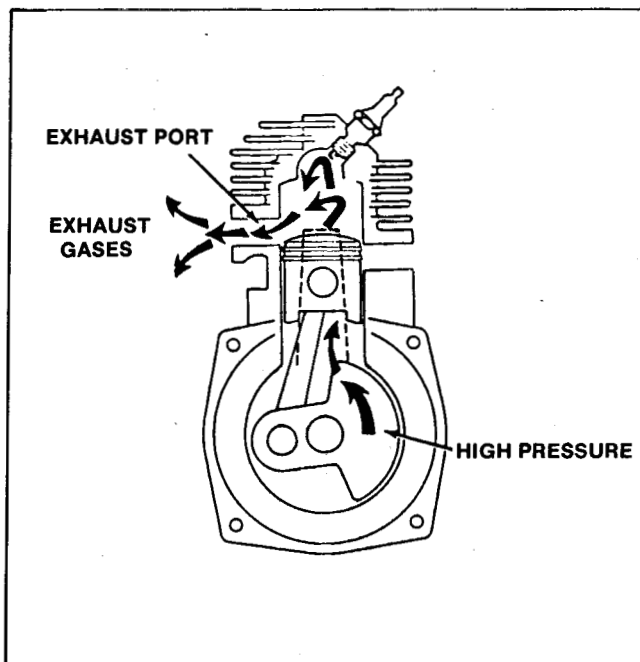

Figure 84
8. The exhaust port is uncovered by the piston and the exhaust gases are allowed to exit. See Fig. 84.